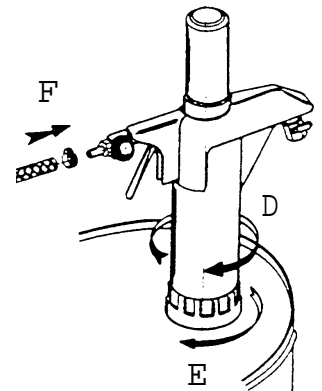

Fig. 3
- 2.1.7. Adjust the air pressure by pulling out the regulator knob (Fig 3. G) and turning it to increase or decrease the pressure (H). When the correct air pressure is reached (between 2 and 7 bar - see specifications), set the regulator by pushing the knob back in (I).